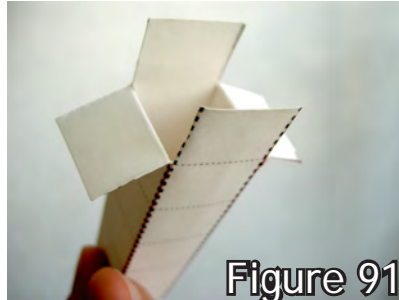

Figure 91
4. Fold back two of the flaps that are across from each other. (fig. 91)